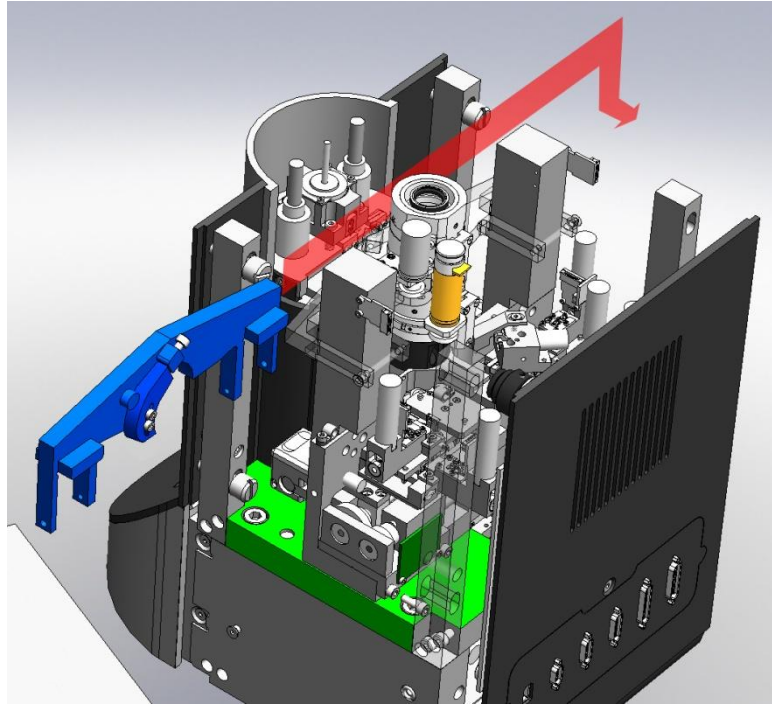

Fig. 2-15. Installing bracket
2. Insert the bracket between columns supporting the frame and the carriage of the videomicroscope, then rotate it 90 degrees so that the microscope and columns of the videomicroscope carriage are in cuts of the bracket (see Fig. 2-15).